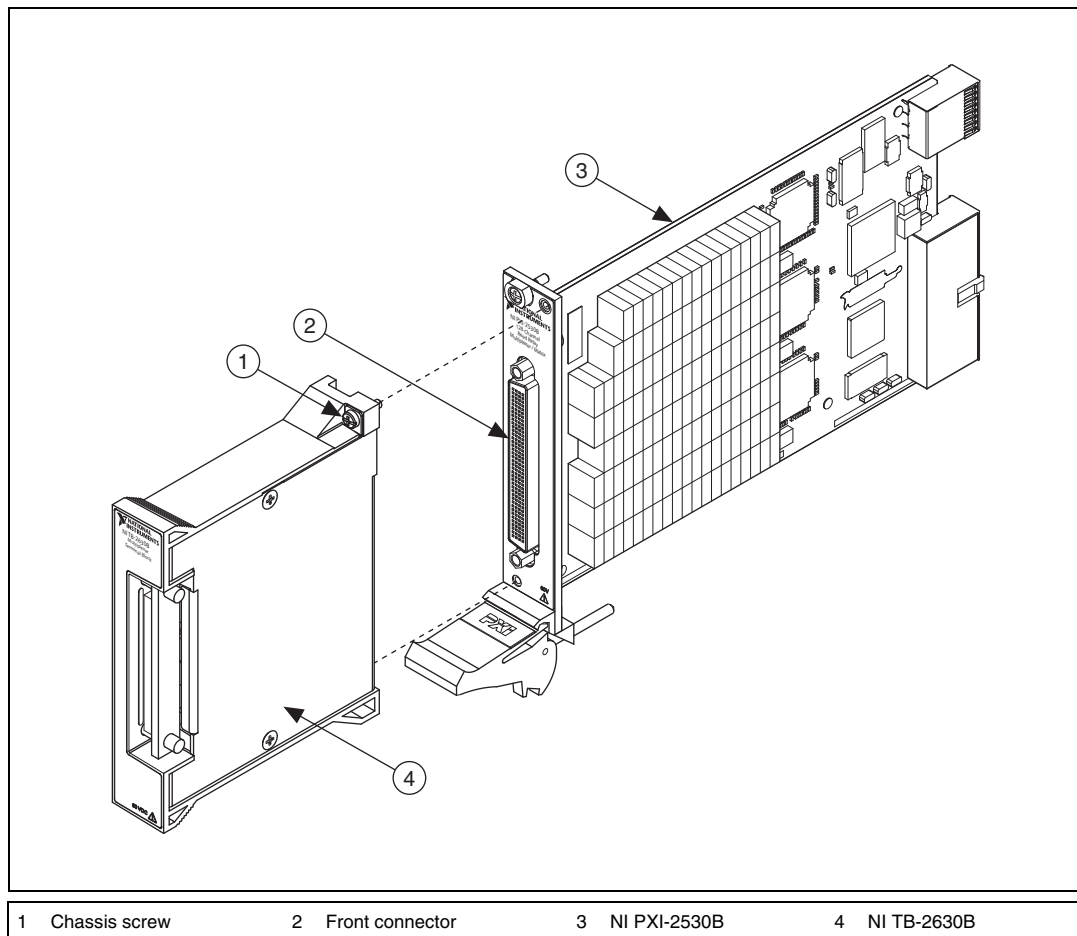

Figure 3. Installing the NI TB-2630B Terminal Block
1. Plug the NI TB-2630B into the front connector of the NI PXI-2530B as shown in Figure 3.